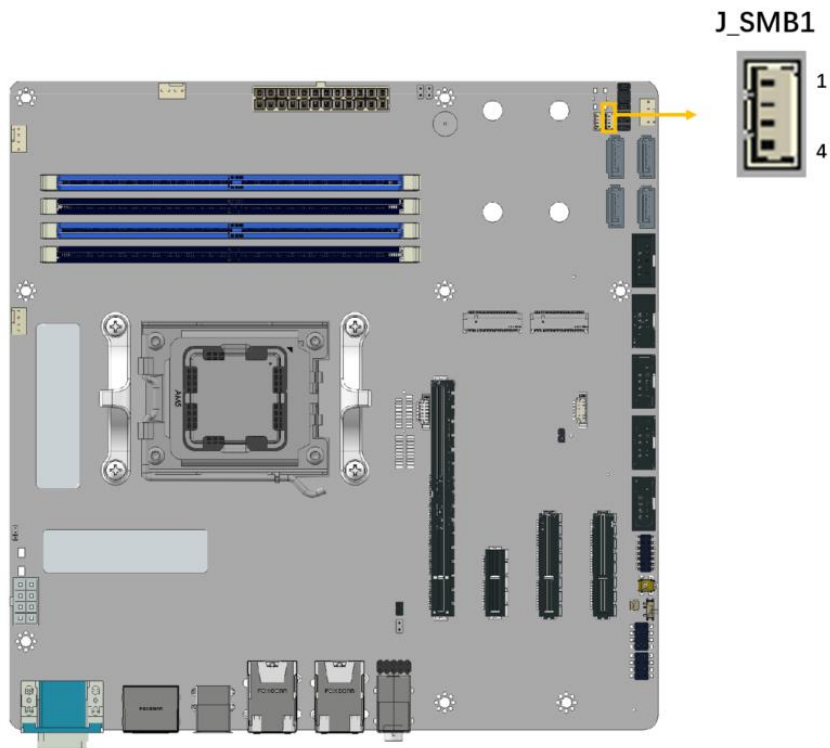

Figure 4-12: SMBus Connector Location
- CN Location:** See Figure 4-12